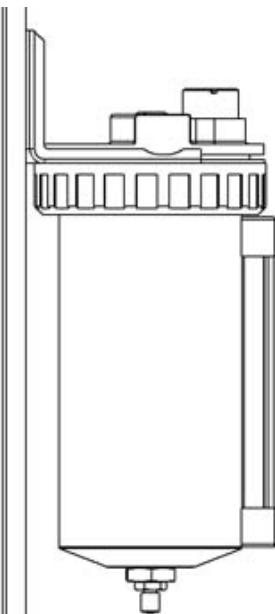
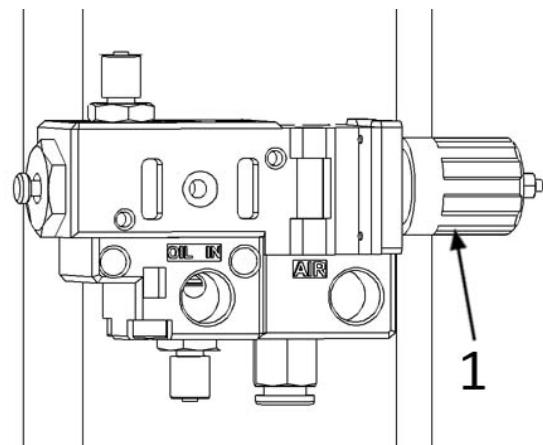
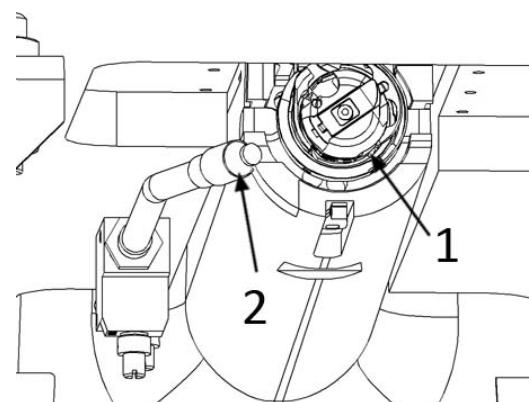

Fig. 51
Fig. 52
Fig. 54
Unlike oscillating shuttle hook, which is lubricated by central wick feed lubrication system from the central oil reservoir, rotary hook is lubricated by aerosol spray oil injected into the hook trajectory together with the flow of air (fig. 54). The machine stand (fig. 51) holds oil reservoir. It is necessary to check regularly the oil level in the transparent oil gauge window and to fill-up the oil if necessary.
The oil is transported to the nozzle by diaphragm pump (fig. 52). Membrane is driven by air pressure. Amount of oil is regulated manually by screw (1). Correct amount of oil corresponds to 1.5 revolution of the screw (1) from the closed position. Check the amount of oil by inserting a piece of paper between the nozzle and the hook (fig. 54). The paper should not be dry, nor should it be full of oil. There should be evenly spreaded small particles of oil on the paper.
Oil is mixed with air in the nozzle (2) - see fig. 54, which is directed towards the point of hook lubrication. The whole mechanism is adjusted from the production plant, however, it is recommended to make regular check-up of the setting to ensure correct function and long operation life of the hook.
If (the parameter 9) Signal of pedal 2 is set to 0 – off, the staff of the machine is informed about low oil level in the reservoir (see fig. 51), with the following „Lowlevelofoilforhooklubrication“ on display.